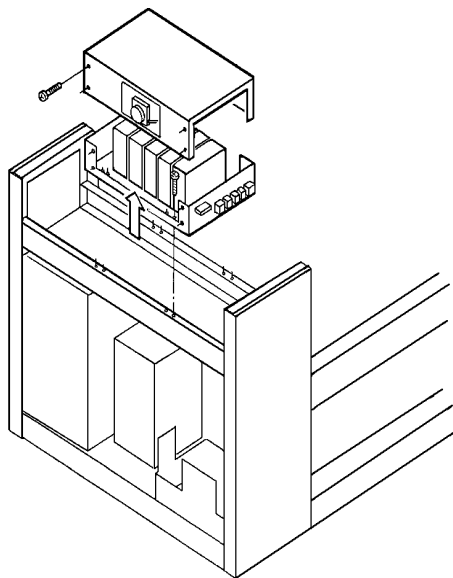

Figure 5-5. Pulse Motor Driver Assembly Removal
| Figure 5-5. | Pulse Motor Driver Assembly Removal | 5-7 |
10. To replace Pulse Motor Driver Assembly, perform steps 1 through 9 in reverse order (refer to Figure 5-5).